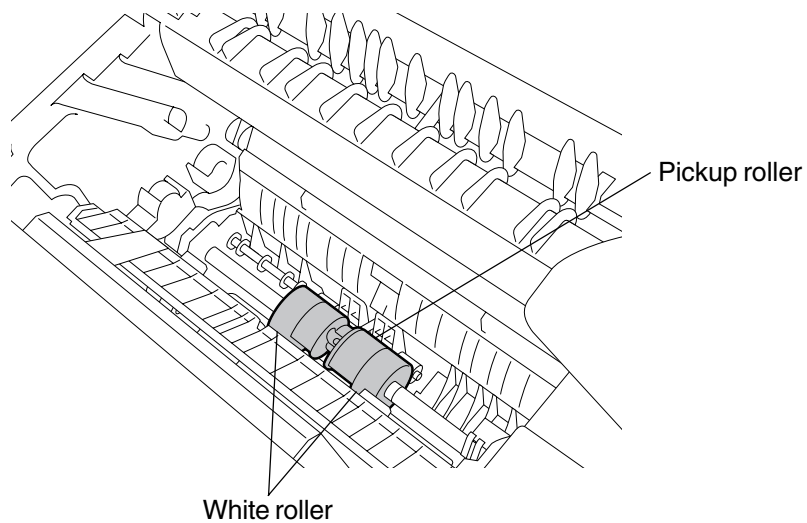

Fig.10-2-17
10. Pickup roller (refer to Fig.10-2-17)
11. White roller (refer to Fig.10-2-17)